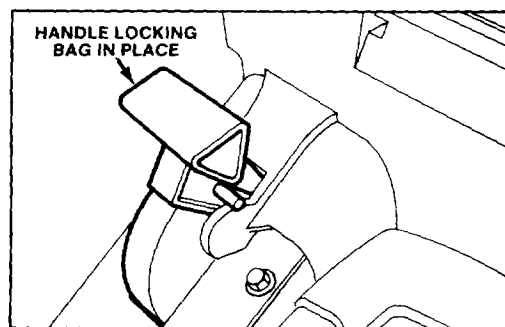

Figure 12
4. Pull chute door handle backward until pin locks bag in place (Fig. 12). Chute door in mower housing is now open.